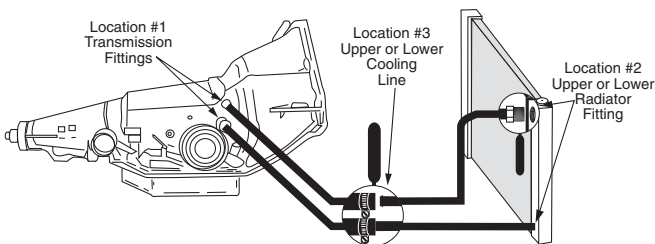

Figure 42. Typical Cooling Hookup Locations
The fittings required to service ATF vary based on vehicle make, and sometimes from model to model. **Make sure the vehicle is shut off** and cool. Do not open a transmission system that is hot and under pressure. Figure 42 shows some typical hookup locations. Location #1 is the fittings at the transmission. Location #2 is the fittings at the radiator. Location #3 shows a location (typical to foreign vehicles) where a rubber hose changes to a steel tubing line. There must be a removable hose clamp at this location in order to make a connection. Only a few vehicles will be serviced at this location.
2. Look for the easiest spot to break into the transmission system (any existing connection along the entire system can be used, see Figure 42).